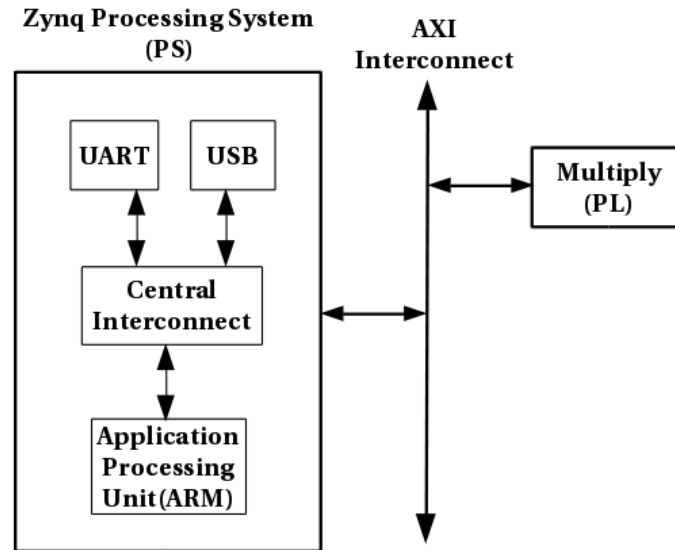

Figure 1: Zynq System Diagram
The microprocessor system you will build in this lab is depicted in Figure 1. In the previous lab a soft processor Microblaze was used, however in this lab you will use the ARM Cortex A9 processor in the Zynq Chip on ZYBO board. The Zynq chip is divided into Processing System(PS) and Programming Logic(PL). PS has a dual-core ARM Cortex-A9 processor and PL uses Xilinx 7 series FPGA logic cells. In place of the GPIO modules, utilized in the last lab, is a multiplication block, which represents the integer multiplication peripheral you will create. The UART in Figure 1 will be used to connect the USB-UART port(J11) on the ZYBO board to the workstation computer via a cable which will display the output of the software executing on the PS. The software you will develop in this lab will provide proof of operation for your multiplication peripheral.